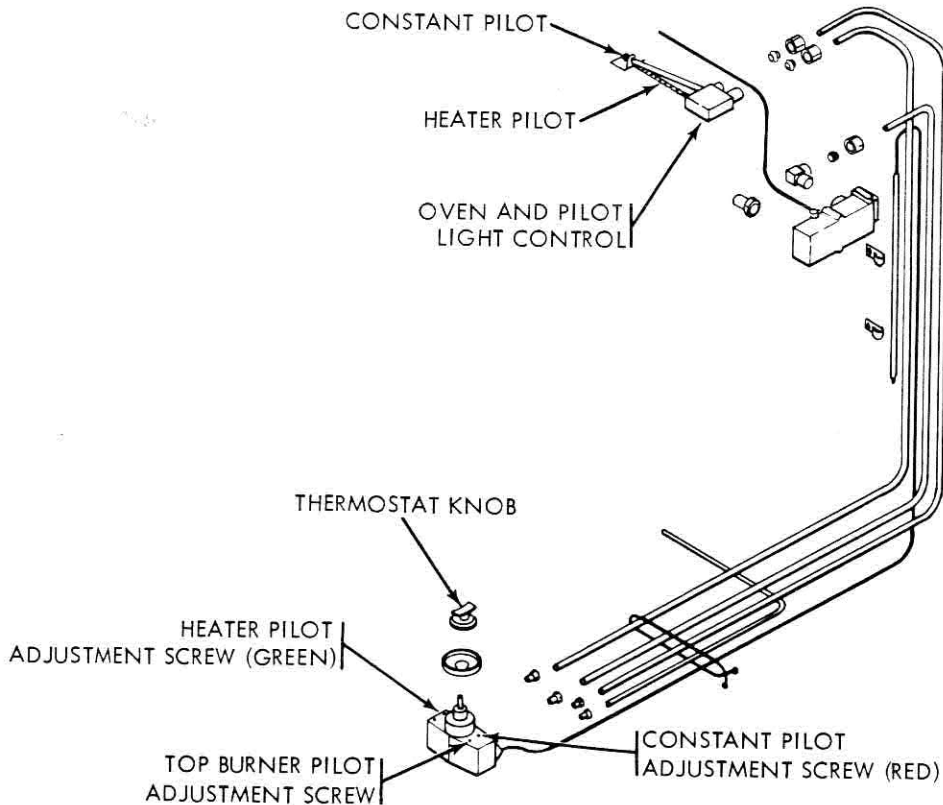

Figure 36-6. Oven/Range Pilot Light System
The oven pilot light system utilizes a cycling type automatic oven burner. It has two separate pilots, a small constant pilot and a larger heater pilot (refer to fig. 36-6). The constant pilot is the main pilot and once lit will stay lit until the oven thermostat dial is set to PILOTS OFF. The heater pilot, being lit by the constant pilot, will heat the sensing bulb of the mercury control valve located in the rear of the range. Once this sensing bulb is heated, it will open the mercury valve permitting it to release gas to the main burner. When the oven has reached the selected temperature, the thermostat will turn off the supply of gas to
(2) Oven Pilot. Because gas conditions vary in different localities, two basic pilot adjustments may be required for proper operation. These adjustments are for the constant pilot and the heater pilot (see fig. 36-6). The constant pilot, which is usually burning all the time, ignites the heater pilot and the oven burner.
- (b) Light constant pilot (see fig. 36-6).